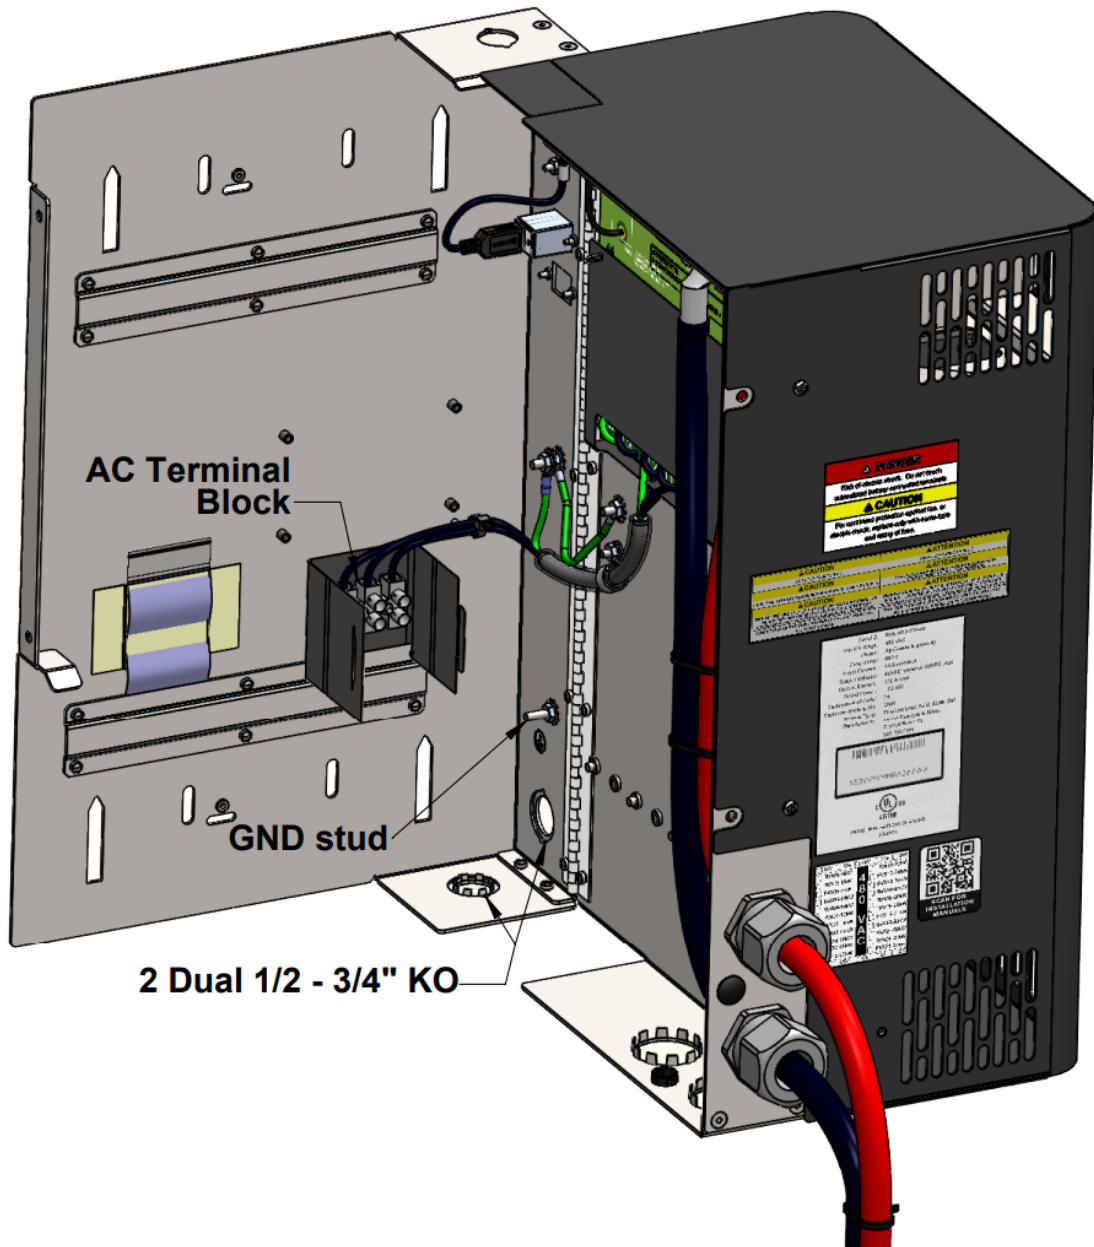

Figure 26: RVX05/RVH05 KO locations
- Determine whether the 1/2" or 3/4" conduit hole will be utilized (3/4" or 1" on RVX12/RVH12), if the larger KO is desired, punch out the outer ring from the knockout (KO) provided (Figures 26, 27):